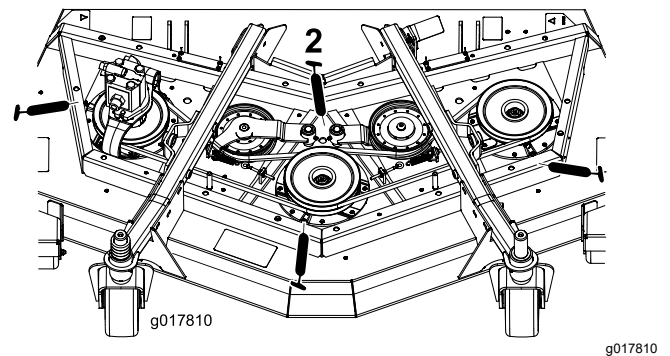

Figure 78
- 3 spindle-shaft bearings—located under the pulley (Figure 78)
- 2 idler-arm-pivot bushings (Figure 78)